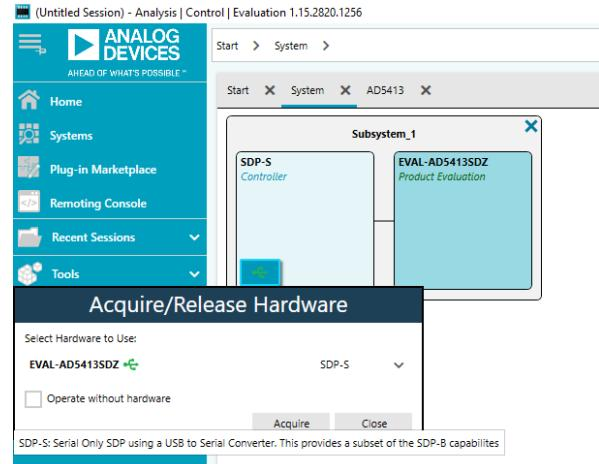

Figure 6. Reconnecting the USB
9. Write the initial configuration values to clear these error flags. If the device is power cycled, or if the USB cable is disconnected and reconnected while the ACE software is open, contact with the EVAL-AD5413SDZ is lost. To regain contact, click the **System** tab, click the USB symbol on the **SDP-S**, and then click **Acquire** (see Figure 6).